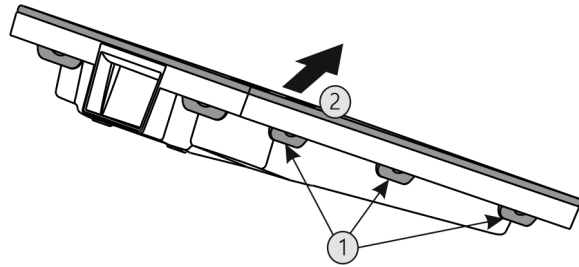

Fig. 40
- ▶ Press all lugs Fig. 40 (1) one after another and remove the cover Fig. 40 (2).